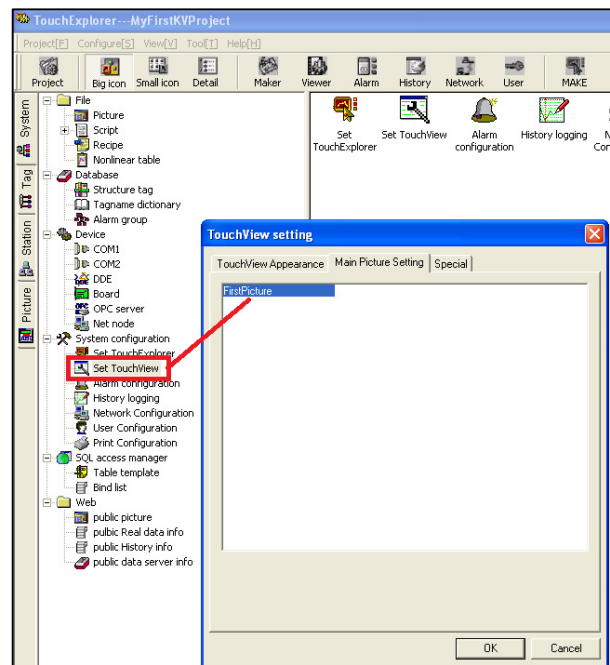

Fig. 35 TouchView Settings (Set main picture)
5. Double click the pipe which connects 2 tanks through "Valve1", and check the flow box and set the condition to be "Valve1\*10". See Fig. 35;
Close the graphics development, and switch back to “TouchExplorer”. Double click “Set TouchView”, and choose the “Main Picture Setting” tab. Choose a picture as the default picture for the runtime environment, so that this picture is shown when runtime system starts. See Fig. 35.